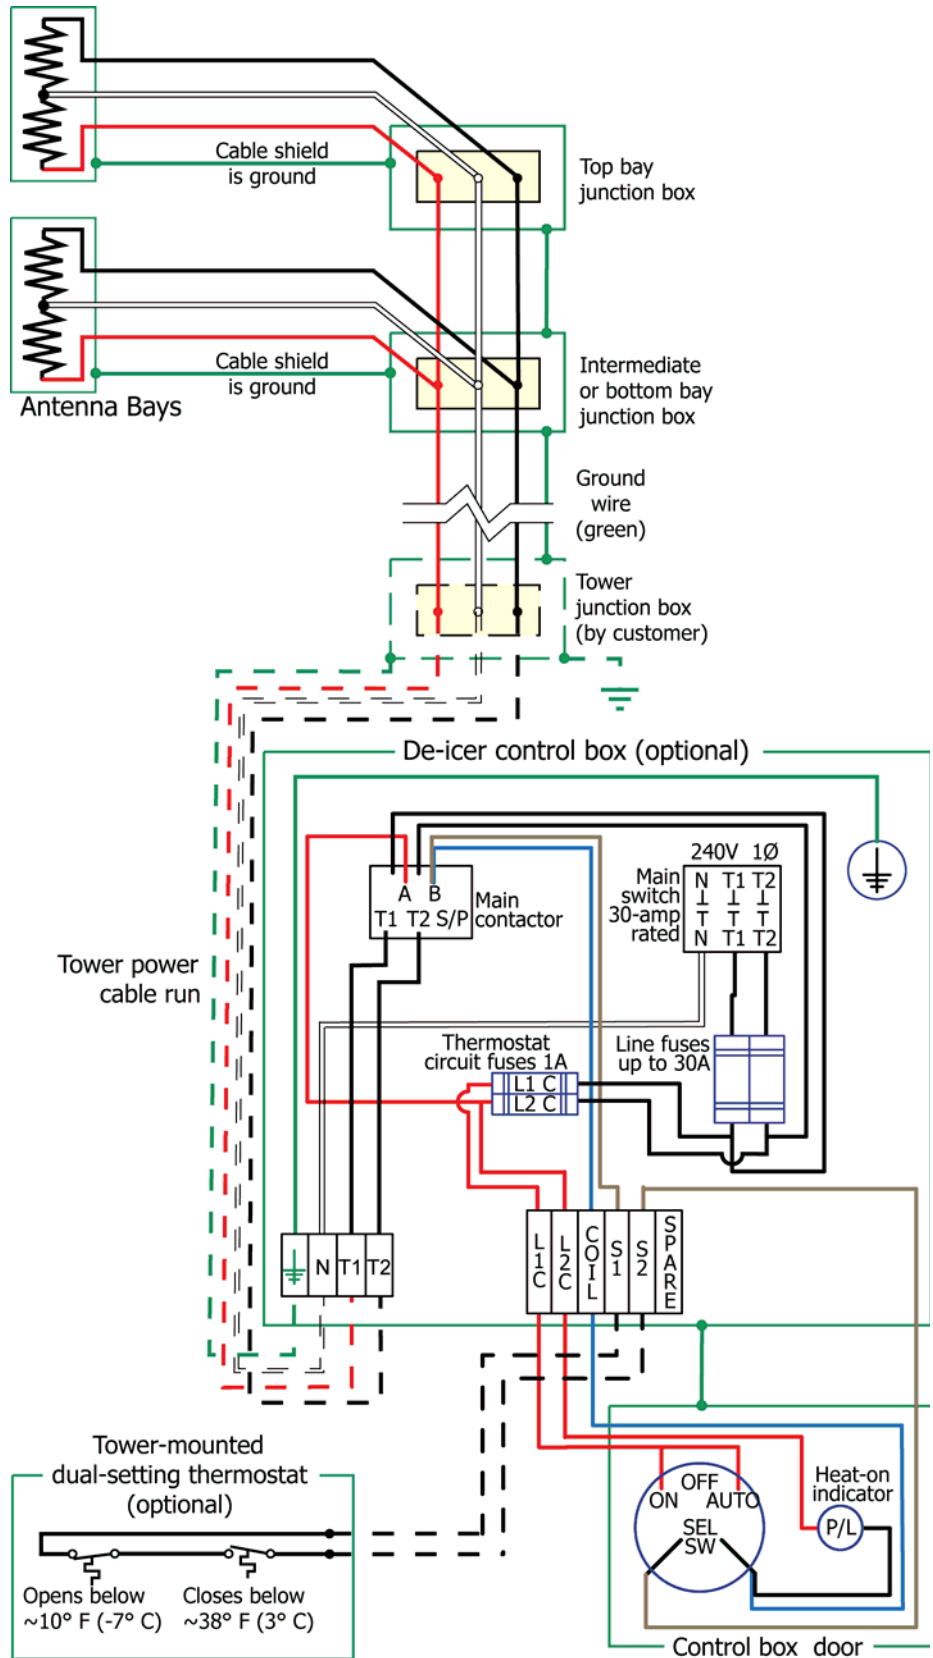

Figure 11. De-icer system schematic diagram, overall
- Electrical schematic, overall: Figure 11 on page 21.
It is important that you ground *both* the tower junction box and the control box, as shown in Figure 11 on page 21.
- a. Install the main de-icer harness with its bay junction boxes as shown in the installation drawing and Figure 11 on page 21.
- c. Furnish a tower junction box as shown schematically in Figure 11 to connect the antenna's de-icer harness to the main power.
- a. Mount the thermostat and connect the thermostat leads to points S1 and S2 in the control box as shown in the schematic diagram, Figure 11 on page 21.
- (1) Measure the resistance across the thermostat circuit and from it to ground to ensure that there are no short-circuits. Test at the location shown in Figure 11.
- (2) Measure the resistance across each heater leg. Be sure to add in the resistance of any long cable runs from the control box to the antenna.
- (3) Thermostat readings should be as shown in Table 3 on page 24 (single thermostat) or Table 4 on page 24 (tandem thermostat).
- (4) Record the resistance and current readings in your maintenance log for future reference in troubleshooting the de-icer system.